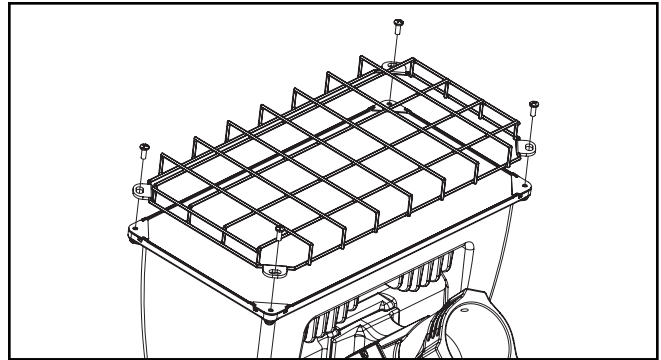

Figure 6.
Wire Guard (Figure 6.)
1. Loosen and remove the existing (4) 10-24 Philips head screws on the face of the fixture and retain for future reference.
2. Align wire guard on top of lens clips matching the four existing holes. (Figure 6.)
3. Retighten (4) 10-24 Philips head screws from step 1 to the face of the fixture.